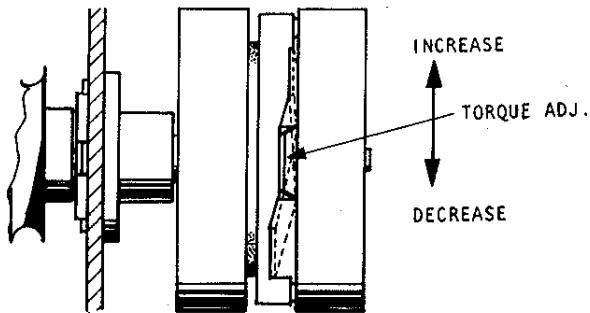

Fig. 6.1
- (2) Take-up Torque should be $40 \pm 10g\text{-cm}$.
- (3) To adjust torque, move take-up spring as shown in Fig. 6.1.
- (4) If torque is not sufficient during play mode, bend the take-up spring equally or replace the take-up spring.